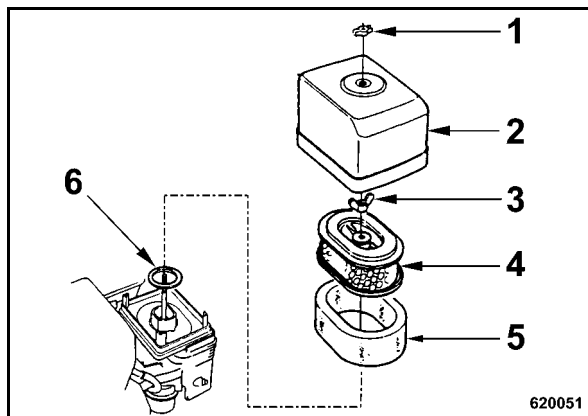

Fig. 35
- Unscrew wing nut (1) (Fig. 35) and remove the housing cover (2).
- Unscrew wing nut (3) and take off paper element (4) with the foam rubber insert (5).
- Check the rubber seal (6), replace if necessary.